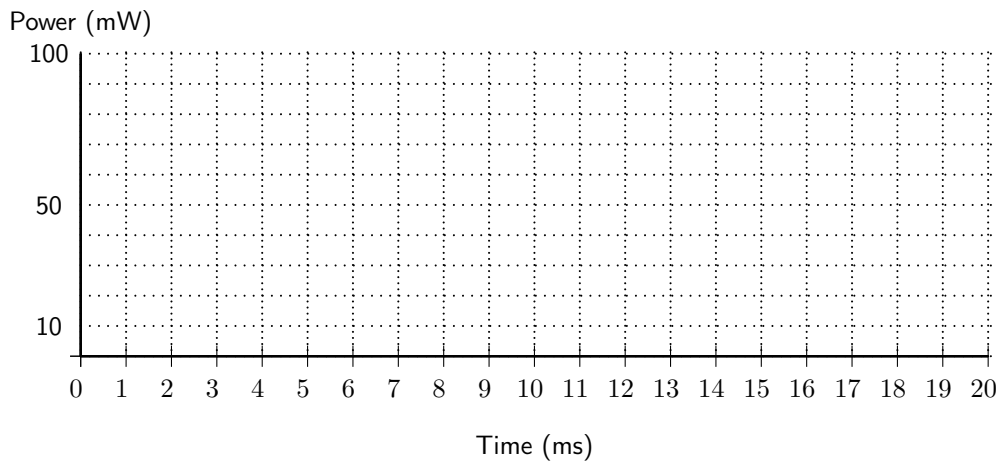

Figure 4: Energy minimizing schedule satisfying all task deadlines.
- (c) (5 points) Find a schedule (not necessarily workload conserving) that satisfies all task deadlines and minimizes the energy consumption. Plot the schedule in Figure 4 that includes the power consumption over time, as well as tasks that are executing. Assume constant power consumption during the transition between different execution modes.